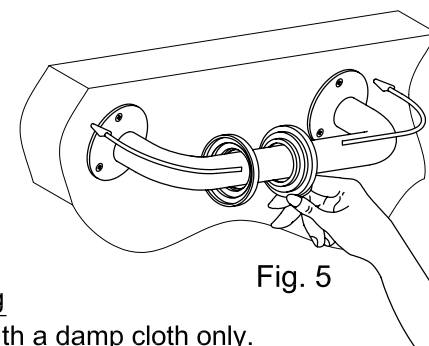

Fig. 5
- Step 5. Shift cover along the bar and place the cover over the mounting plate by pressing gently until the cover is tightly fixed. (Fig.5)